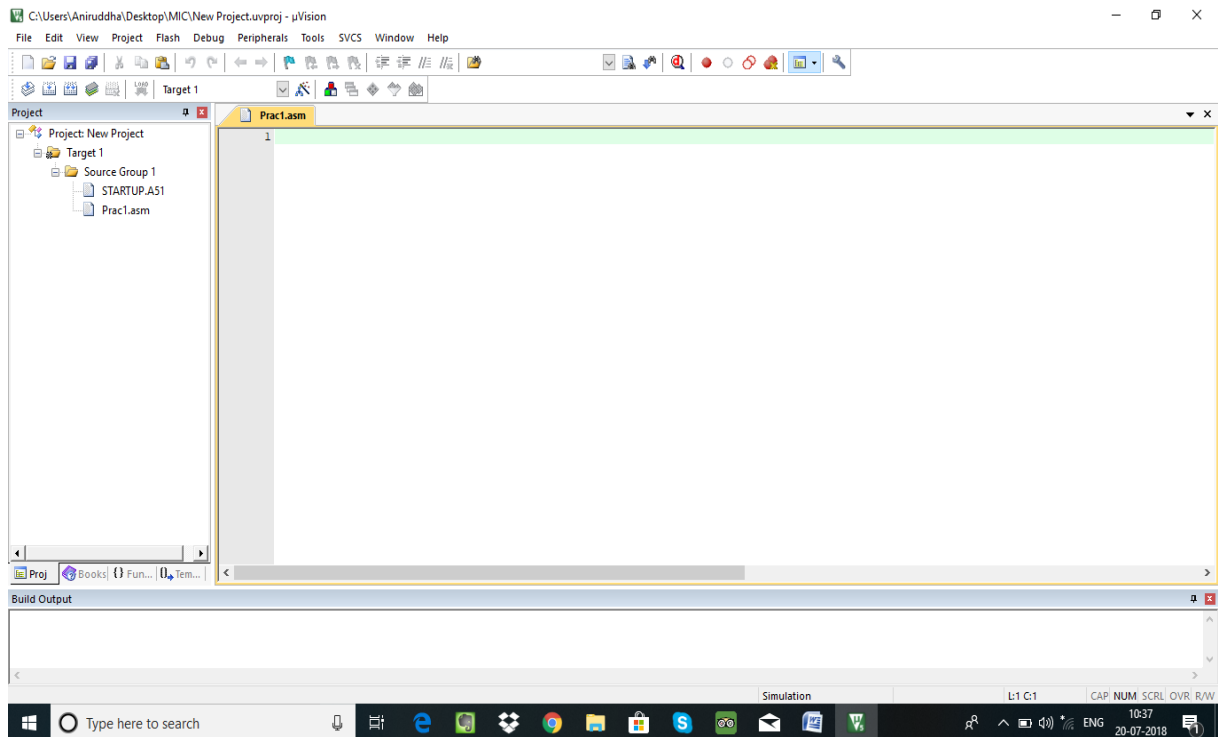

Figure.13
4. Project work space window will display 'Target 1' and source group 1' with added file name. Fig 13